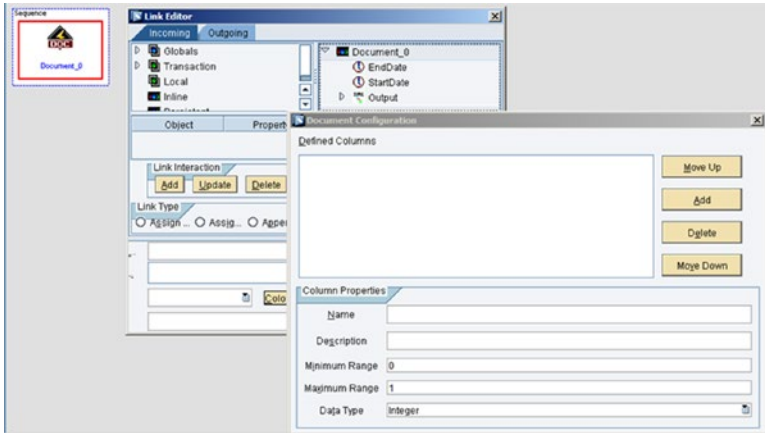

Figure 6-56. Document action block
- *Document action block*: The main action block that defines the XML structure where the columns are assigned to its probable datatype, length of datatype, etc. See Figure 6-56.